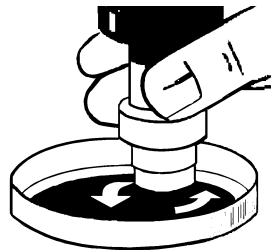

FIGURE 4-8
3. Holding the sensor vertically as shown in Figure 4-8, use a circular motion to polish the sensor face for at least 30 seconds until the gold cathode is clean and shiny. (This step may need to be repeated several times.) Make sure to avoid skin contact with the polishing cloth, which must be kept free of dust and grease.